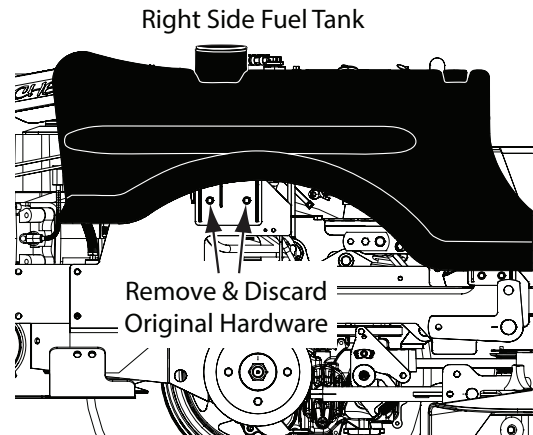

Figure 3-15. SCZ/STCII Handle Bracket Mounting Holes
3. For **SCZ 48/52V & STCII 48/52/61V-OCDC**, remove and discard two (2) 5/16-18 serrated flange nuts and two (2) 5/16-18 x 3/4" carriage bolts used to secure the right hand fuel tank mounting bracket to machine frame. See Figure 3-15.